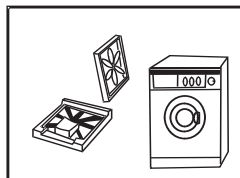

Fig. 1
- Remove all the packing materials to prevent vibration during use. Upon opening of the package, water drops may be seen on the plastic bag and the porthole. This is normal phenomenon resulting from water test in the factory, as shown in Fig. 1.